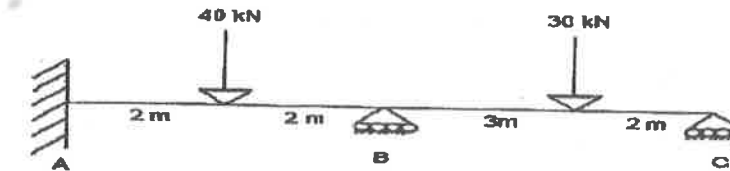

Fig.6
14. a) Determine the shape factor of a T section of size (120 × 120 × 10 mm). (OR)
b) Calculate the plastic moment capacity required for the continuous beam shown in Fig.6 with working loads.